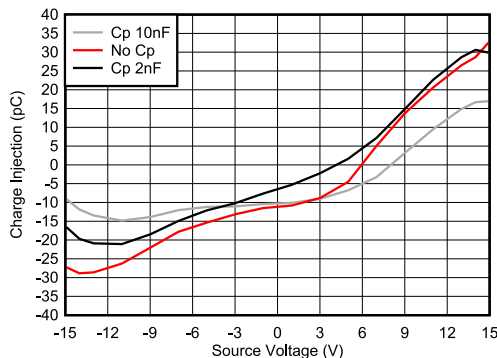

Figure 8-3. Charge Injection Compensation
The TMUX6219-Q1 contains specialized architecture to reduce charge injection on the source (Sx). To further reduce charge injection in a sensitive application, a compensation capacitor (C_p) can be added on the drain (D). This will ensure that excess charge from the switch transition will be pushed into the compensation capacitor on the drain (D) instead of the source (Sx). As a general rule of thumb, C_p should be 20× larger than the equivalent load capacitance on the source (Sx). Figure 8-3 shows charge injection variation with source voltage with different compensation capacitors on the Drain side.